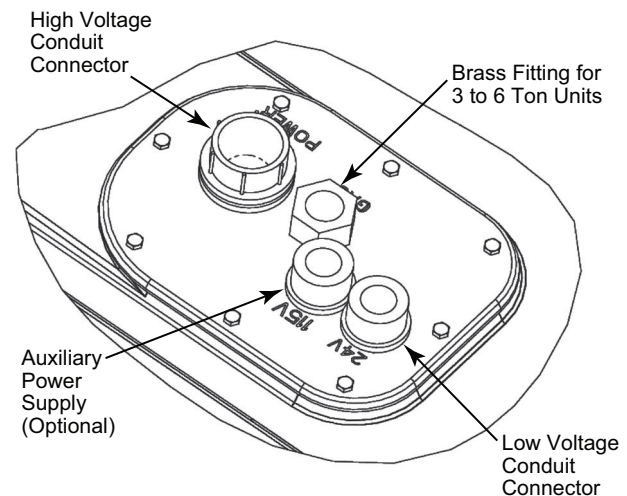

Fig. 18 — Thru-Base Connection Fittings
The 3/4 in. bulkhead connector enables the low-voltage control wires to pass through the basepan. The 1/2 in. bulkhead connector allows the high-voltage power wires to pass through the basepan. See Fig. 18.
3. Place the gasket over the embossed area in the basepan, aligning the holes in the gasket to the holes in the basepan. See Fig. 18.